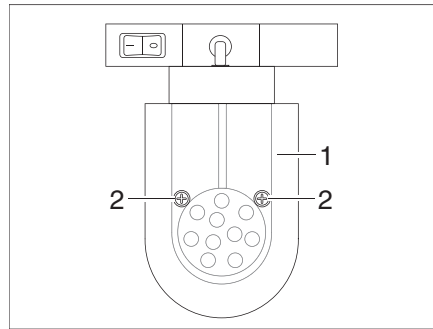

Fig. 166 LED spotlight (movable)
- Loosen the fixing screws (Fig. 166,2).
- Remove the lamp glass cover (Fig. 166,1) carefully.